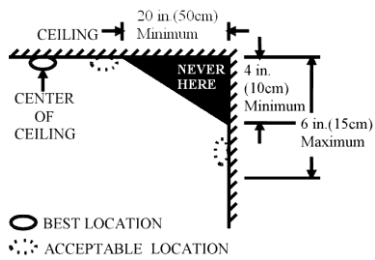

Figure 4:
- Install smoke detectors as close to the center of the ceiling as possible. If this is not practical, put the detector on the ceiling, no closer than 20 inches (50 cm) from any wall or corner, as shown in **Figure 4**.
- If ceiling mounting is not possible and if wall mounting is permitted by your local and state codes, put wall-mounted detectors between 4 and 6 inches (10 ~ 15 cm) from the ceiling, as seen in **Figure 4**.
- Dead air spaces are often at the top of a peaked roof or in the corners between ceilings and walls. Dead air may prevent smoke from reaching the smoke detector. See **Figures 4 and 5** for recommended mounting locations.